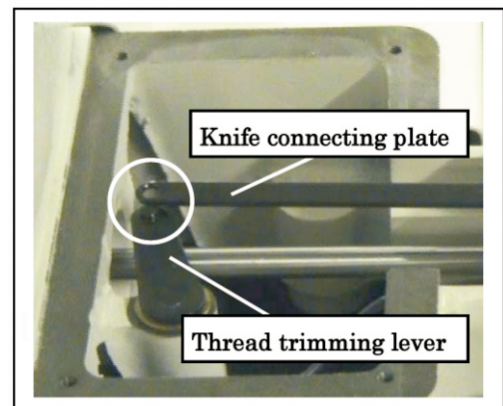

Fig.2
4. Remove the knife connecting plate from the thread trimming lever pin.(Fig. 2)